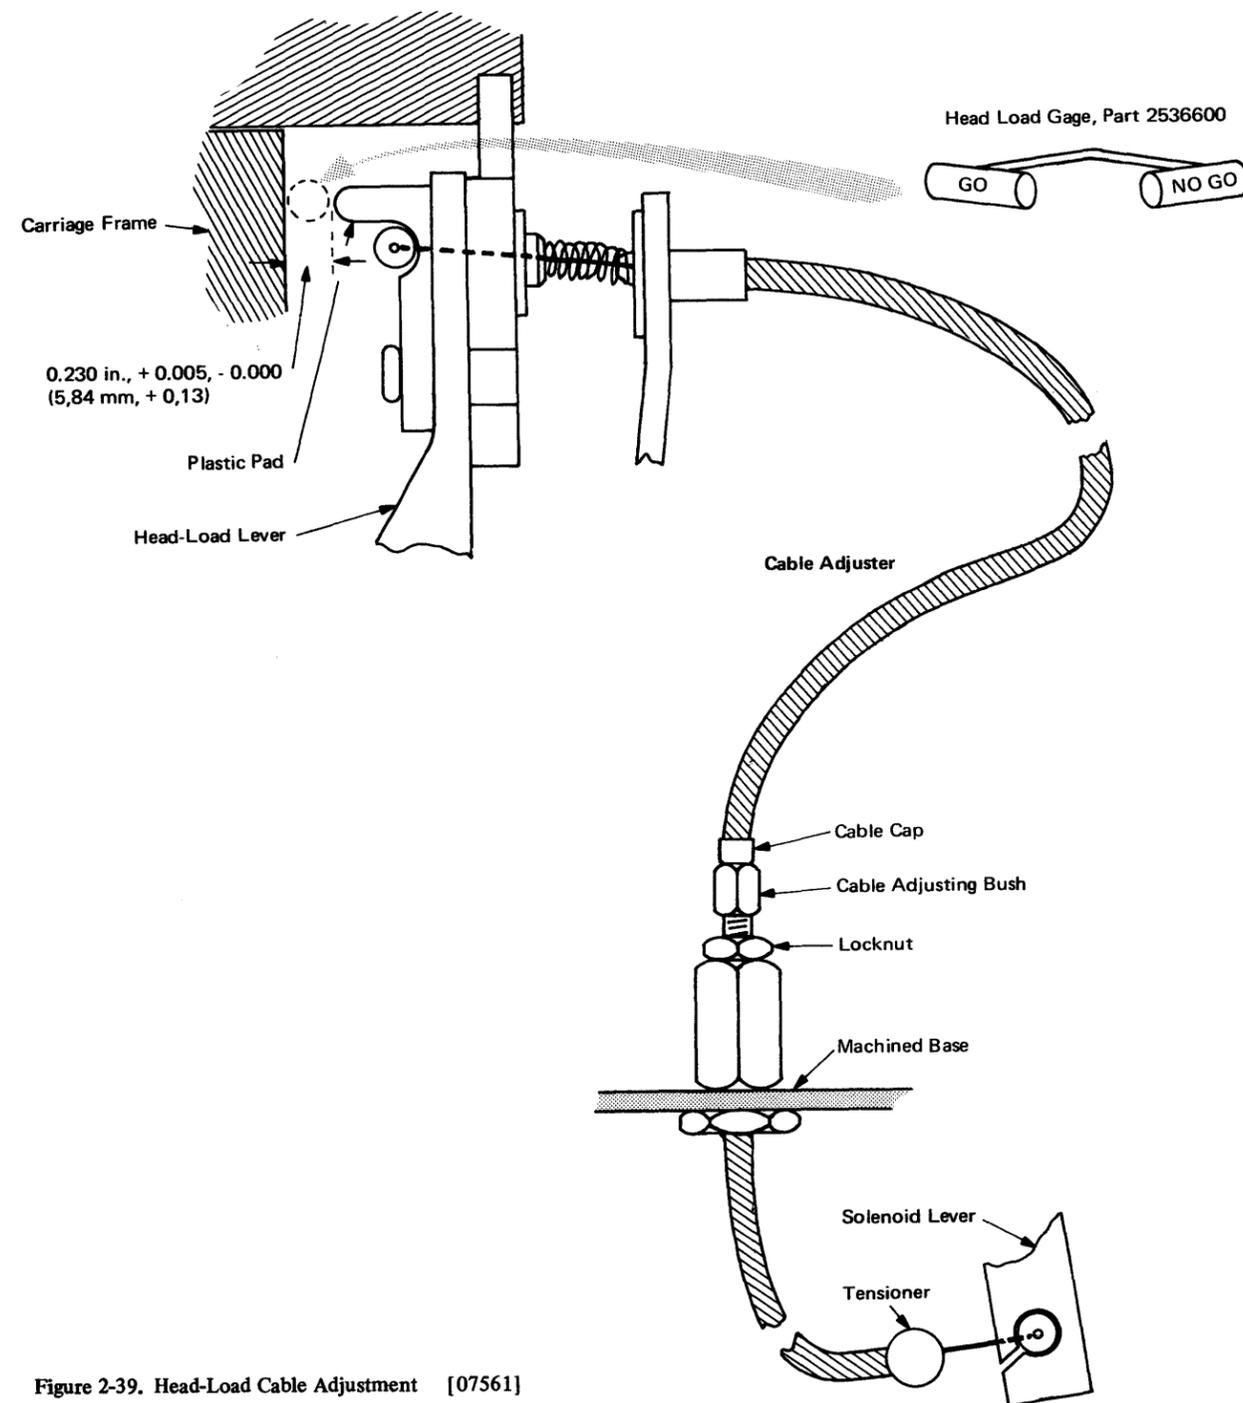

Figure 2-39. Head-Load Cable Adjustment [07561]
5. Slacken cable adjuster locknut (Figure 2-39). Ensure that cable cap is seated in cable adjusting bush.
7. The gap between the plastic pad on the head-load lever and the carriage frame should be 0.230 in., +0.005, -0.000 (5,84 mm +0,13), see Figure 2-39. Check by inserting the 'GO' arm of head-load gage, part 2536600, between head adjusting screw and trip arm.
5. Slacken cable adjuster locknut (see Figure 2-39). Screw in the cable adjusting bush. Slip outer cable from tensioner and lift cable nipple out of solenoid lever. Take care not to bring the heads forcibly together.